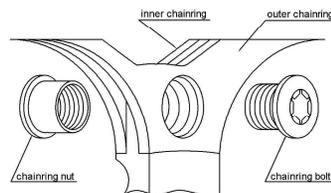

Fig.4
- Apply grease to the chainering bolt threads and surfaces where they contact the crank arm and chainrings. Fasten the chainrings to the crankarm using the T-30 chainering bolts to a torque of 120 kgf.cm / 12 Nm / 106 in.lbs. (Fig.4)